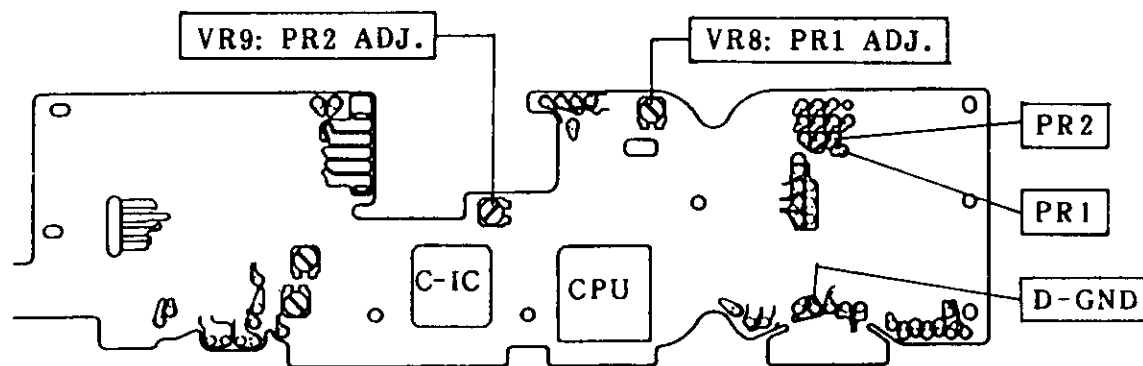

Fig. 5
Remove (1) through (3) in the previous section (III.1), mount a camera, and attach test leads to the main flex at PR1, PR2 and D-GND (Fig. 5).